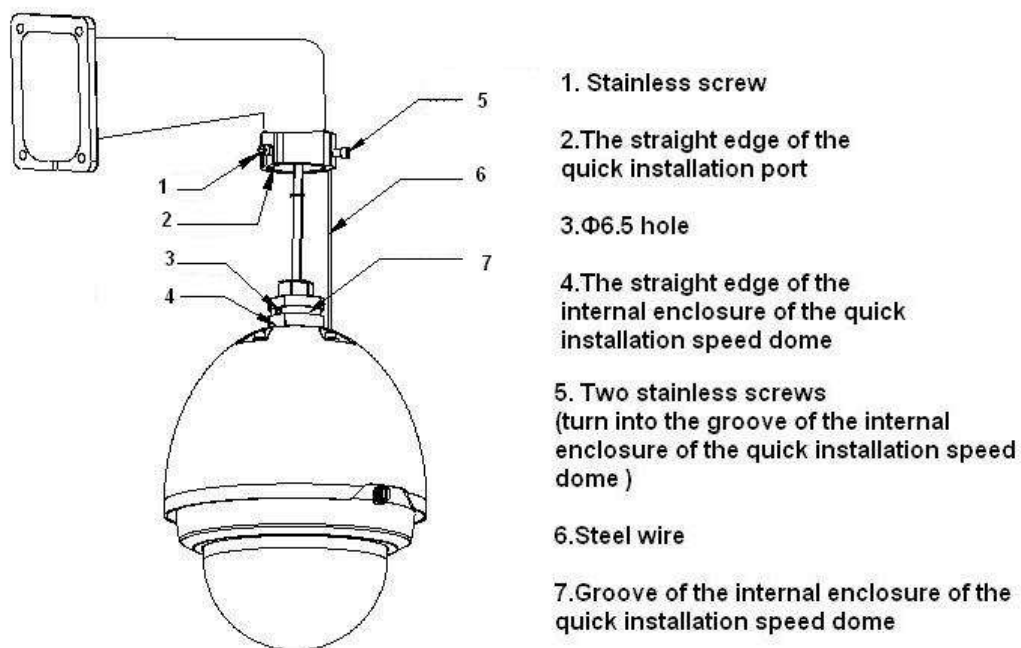

Figure 2-6
2. Line up the straight edge, of the internal enclosure within the quick installation speed dome, to the straight edge of the quick installation port, and then slowly push the speed dome to the bottom of the port. Use your hands to turn the three stainless steel screws, on the quick installation port, in to the groove of the speed dome's internal enclosure. Turn the screws on the straight edge of the quick installation port to the $\Phi 6.5$ hole of the speed dome's internal enclosure. Use the inner hex tool to fix these three screws. Installation should now be complete. See Figure 2-6.